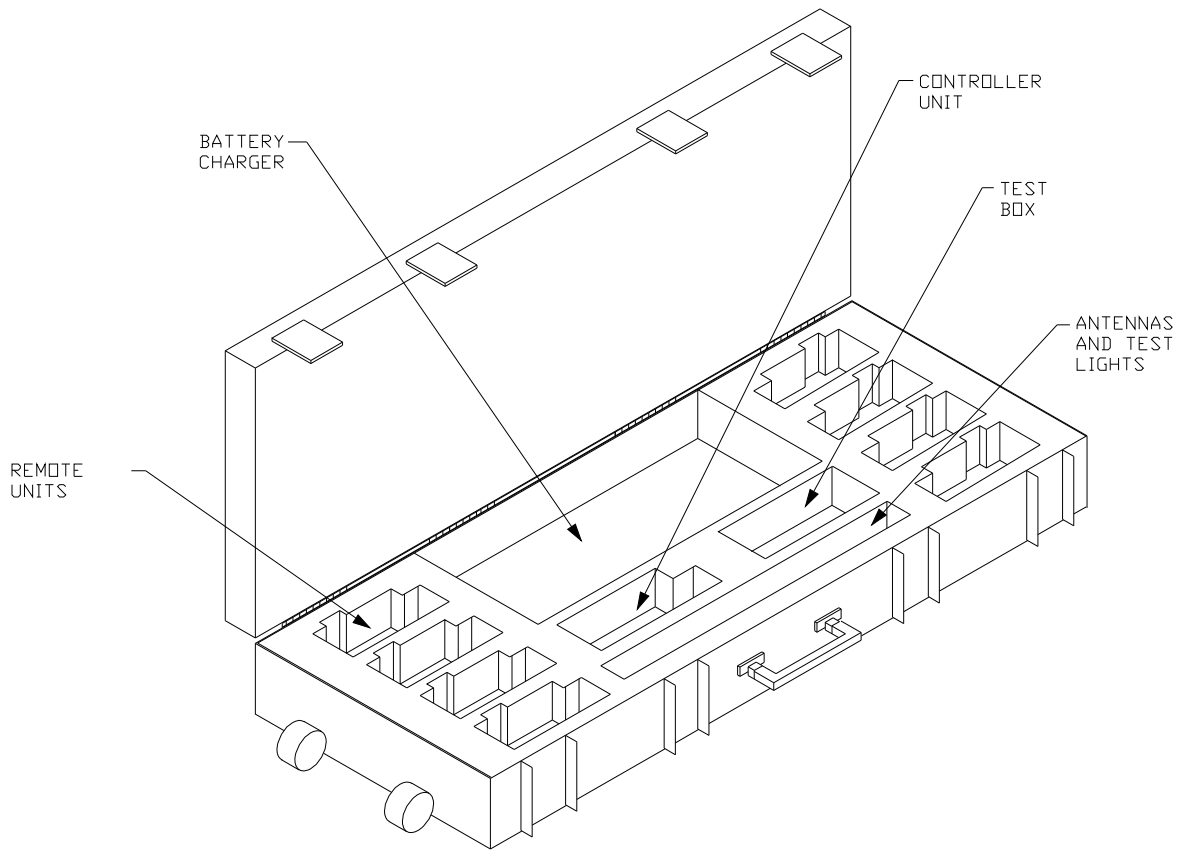
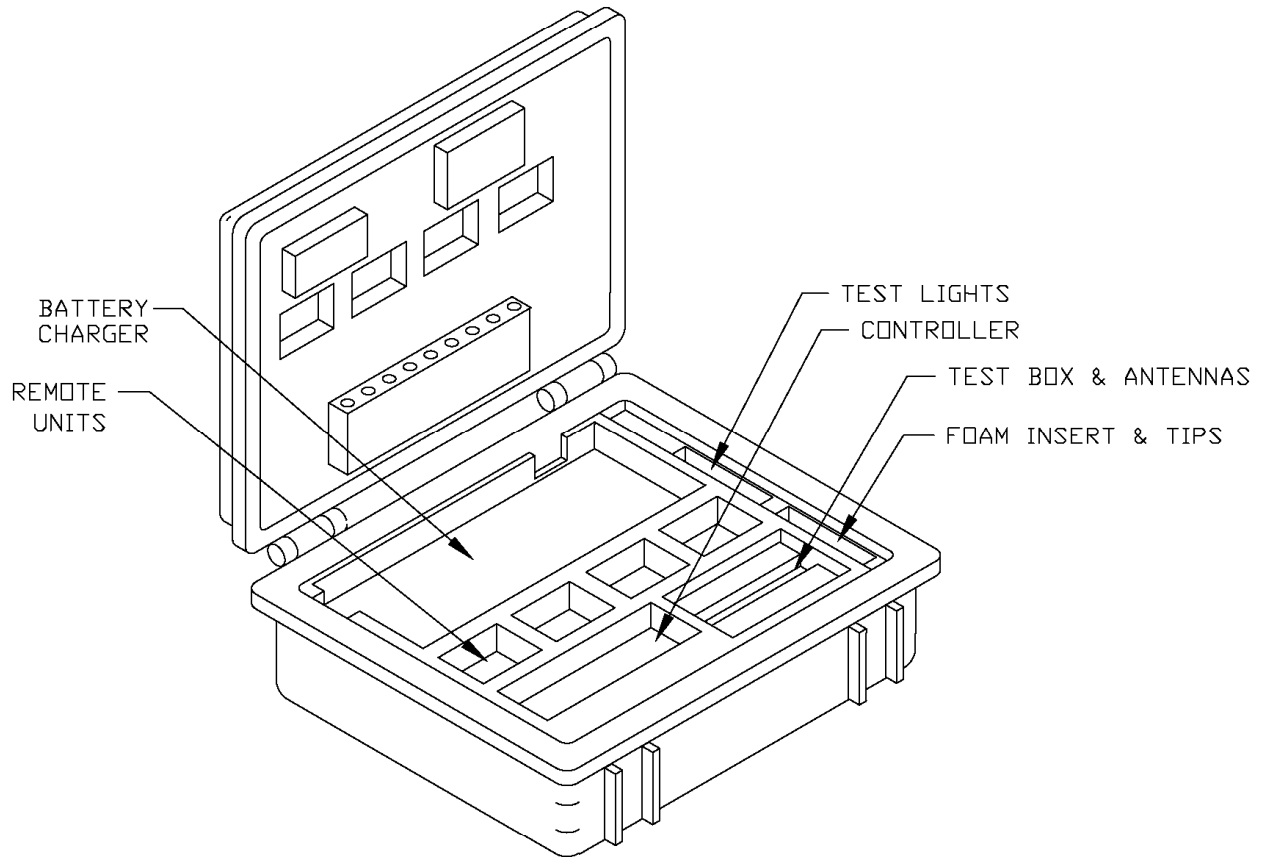

Figure 2-12 Carrying Case
Figure 2-13 Carrying Case (Half Case)
2.10.1. Figure 2-12 Carrying Case shows the full system Carrying Case and Figure 2-13 Carrying Case (Half Case) shows the Carrying Case (Half-Case). Shown are the physical sizes of the Carrying Cases and a view of the storage location for System assemblies in the Carrying Cases. The Carrying Cases have a pressure equalization vent near the handle. The vent operation is automatic.